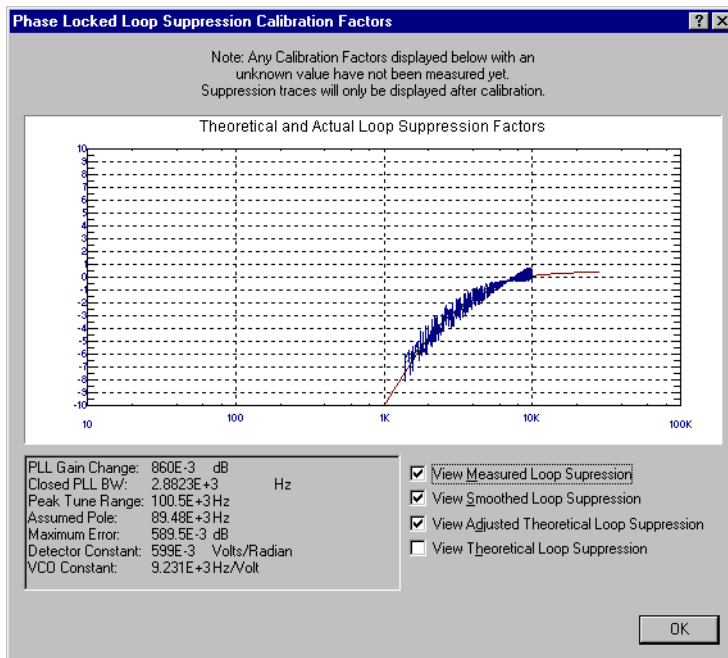

Figure 7-21 Selecting Suppressions
- 2 When the PLL Suppression Curve dialog box appears, select **View Measured Loop Suppression**, **View Smoothed Loop Suppression**, and **View Adjusted Loop Suppression**. See Figure 7-21.